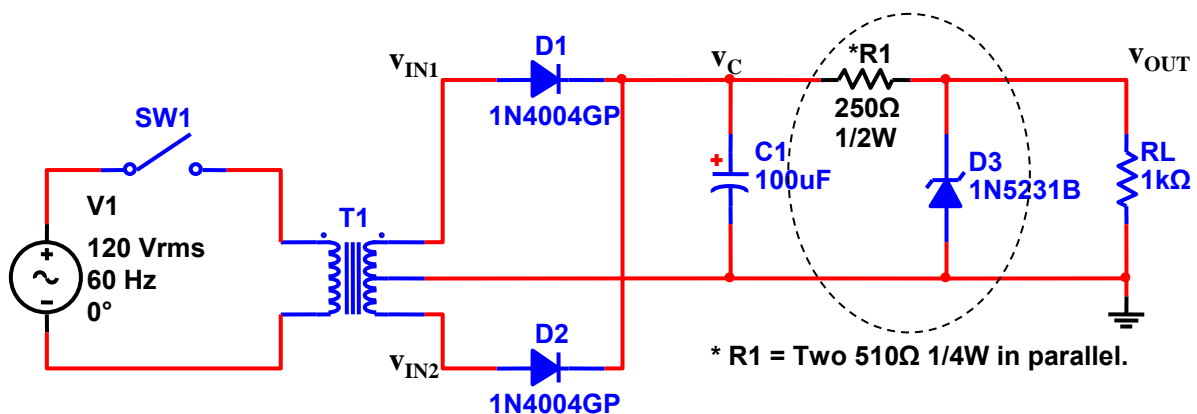

Figure 2-6.
- Figure 2-6: Full-Wave Rectifier Circuit (with cap and Zener regulator)
- 3.1. Modify the full wave rectifier circuit by adding the zener diode regulator subcircuit as shown in Figure 2-6. NOTE: Add SERIES RESISTOR R1 comprised of one  $250\Omega$  ( $1/2W$ ) resistor OR TWO  $510\Omega$  ( $1/4W$ ) resistors in PARALLEL. ALSO note that zener diode D3 is in parallel with the load resistor  $R_L$ .